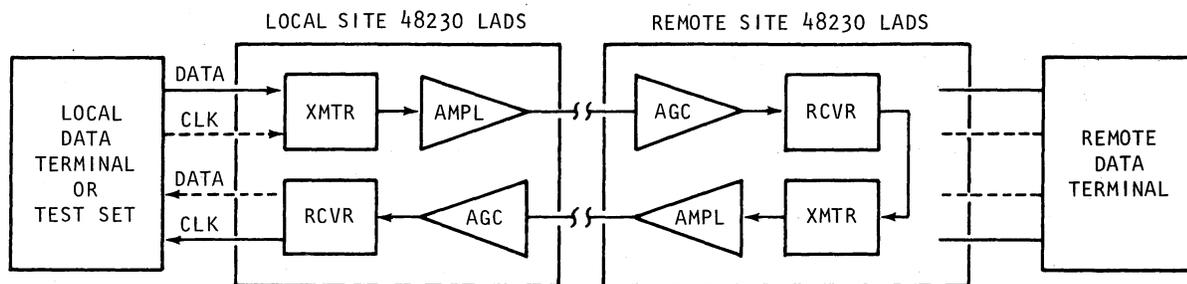

Figure 4-5. Local Site LADS in Remote Loopback Mode
1. Connect and condition test equipment as shown in Figures 4-5 and 4-7, except on 914-type DTS set COUNTER to BLOCK ERRORS.